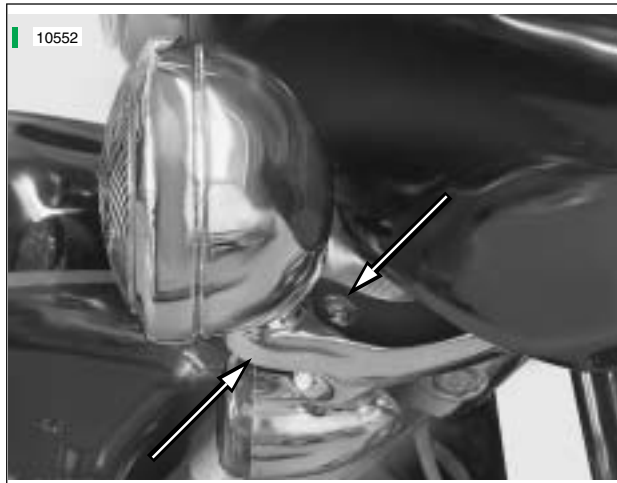

Figure 8-1. Front Turn Signal/Passing Lamps Fastener Location
4. See Figure 8-1. Remove fastener to release turn signal lamp from mounting bracket.
4. See Figure 8-1. Remove fasteners from bottom of passing lamp.